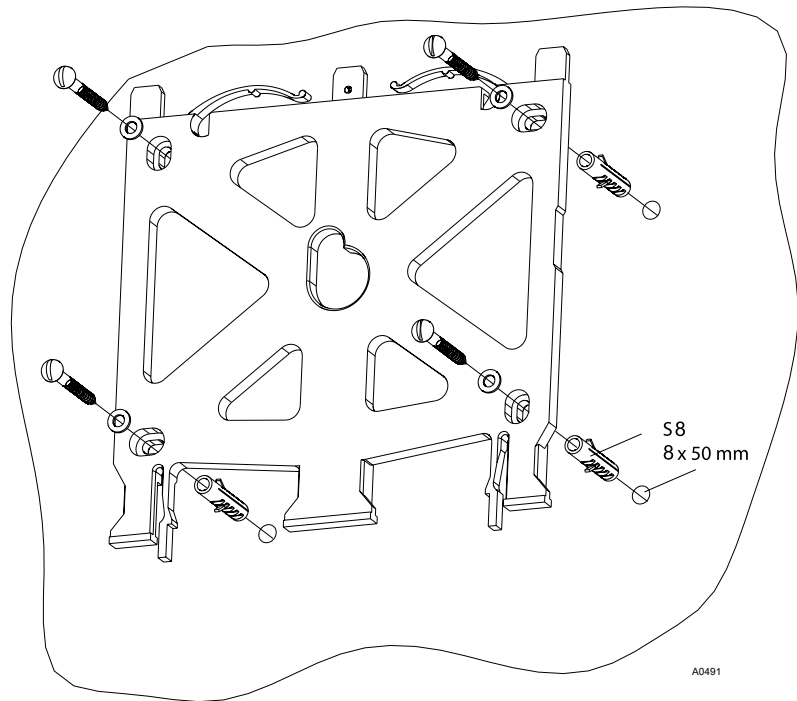

Fig. 7: Fitting the wall bracket
5. ➤ Screw the wall bracket into position using the washers, see Fig. 7